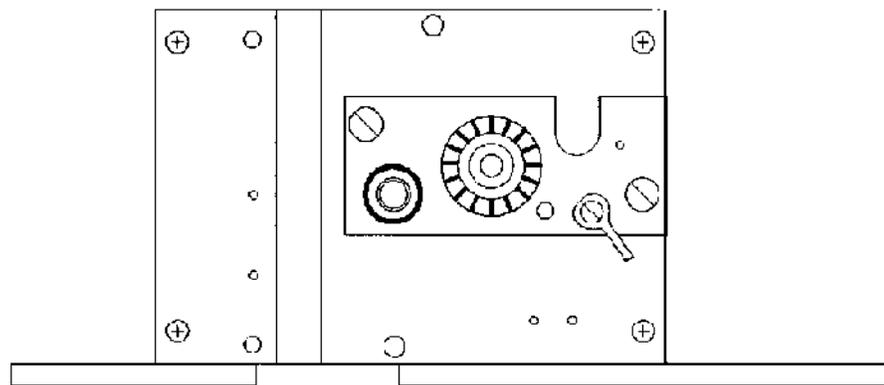

Figure 157 Chuck Holder Plate Mounted in LINEAR Position
3. Position the wrench portion of the chuck holder plate on the rotary shaft. (See Figure 157 on page 178.)
6. Mount the chuck holder plate in the LINEAR position on the transducer using the two captive screws to secure it. See Figure 157.